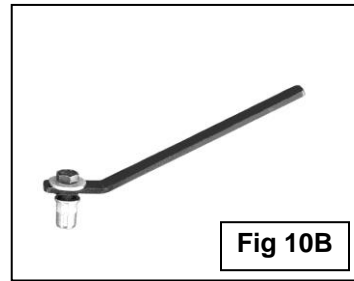
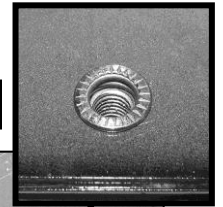

Fig 10B
Fig 10C
11. Assemble the Threaded Insert installation tool as pictured in **Figure 10B**. Hold the handle and push the insert into the drilled hole in the pinch weld. **NOTE:** Insert must fit snug in hole. If necessary, use a small hammer to carefully tap the insert into the hole until the rim on the insert is flush against the pinch weld. Firmly hold the tool handle and tighten the hex bolt in the tool to expand the insert in the hole. Continue until threads are flush with the top of the insert, **(Figure 10C)**. Remove the tool and hardware. Bolt the Support Bracket to the threaded insert with (1) 8mm x 30mm Hex Bolt, (1) 8mm Flat Washer and (1) 8mm Lock Washer, **(Figure 11)**. Tighten hardware at this time.
Use the assembled tool (Fig 10B) to hold the Insert fully in place. Tighten hex bolt in Insert until threads are pulled up to the top (rim) of the insert